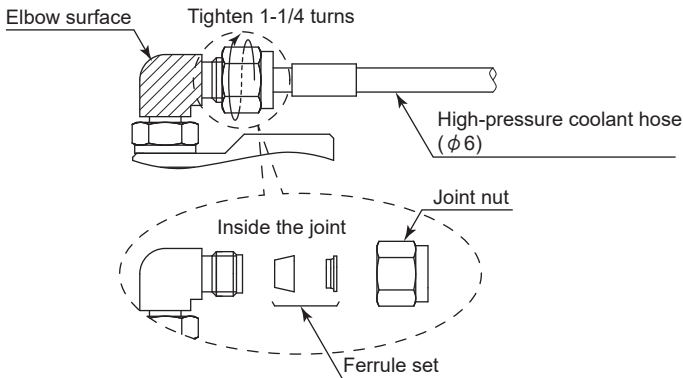

Fig. 12
- (2) Fit an adjustable wrench on the elbow surface (shaded area) of the high-pressure coolant fitting to hold it in place, and use another adjustable wrench to tighten the joint nut 1-1/4 turns. (Fig. 12)